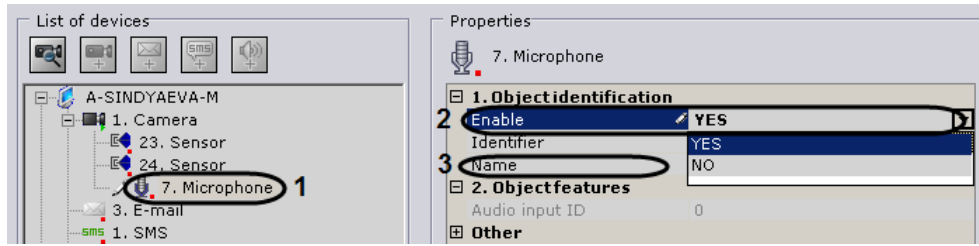

Fig. 6.4—15 A Microphone object
1. Select the microphone object in the objects tree (Fig. 6.4—15, 1).
2. Enable the microphone by selecting **Yes** in the **Enable** field (see Fig. 6.4—15, 2).
3. Enter the name of the microphone into the **Name** field (see Fig. 6.4—15, 3).